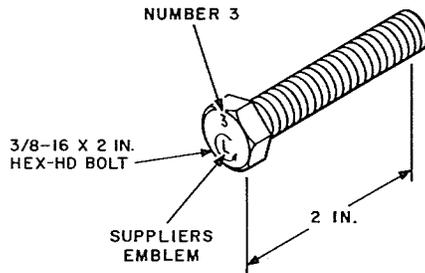

Fig. 27—Typical Approved Splice Case Bolt
3.27 Check the bolts or capscrews furnished for joining the splice cases. Satisfactory bolts and capscrews have the numeral "3" on the head (Fig. 27). The approved bolt is 2 inches long and the capscrew has a captive washer under the head. *No other bolt or capscrew shall be used.*
3.32 Place ground lug and bonding ribbon where required. For an underground installation, insert the bonding ribbon through the space between the ground lug and the splice case. Tighten the lugs evenly to secure the bonding ribbon. Use a B connector to attach the bonding ribbon from the splice case to the manhole bonding ribbon (Fig. 27). On an aerial installation, make remaining strand attachment with strand lugs or 50A hangers as required.
5.05 *Examine each splice case bolt* for the numeral 3 on the head. (Fig. 27). *No other bolts should be used. Do not remove bond installed in paragraph 5.03.* Reinstall the splice cases as covered in paragraph 3.15 through 3.32. Pressure test the completed closure as outlined in Part 4.